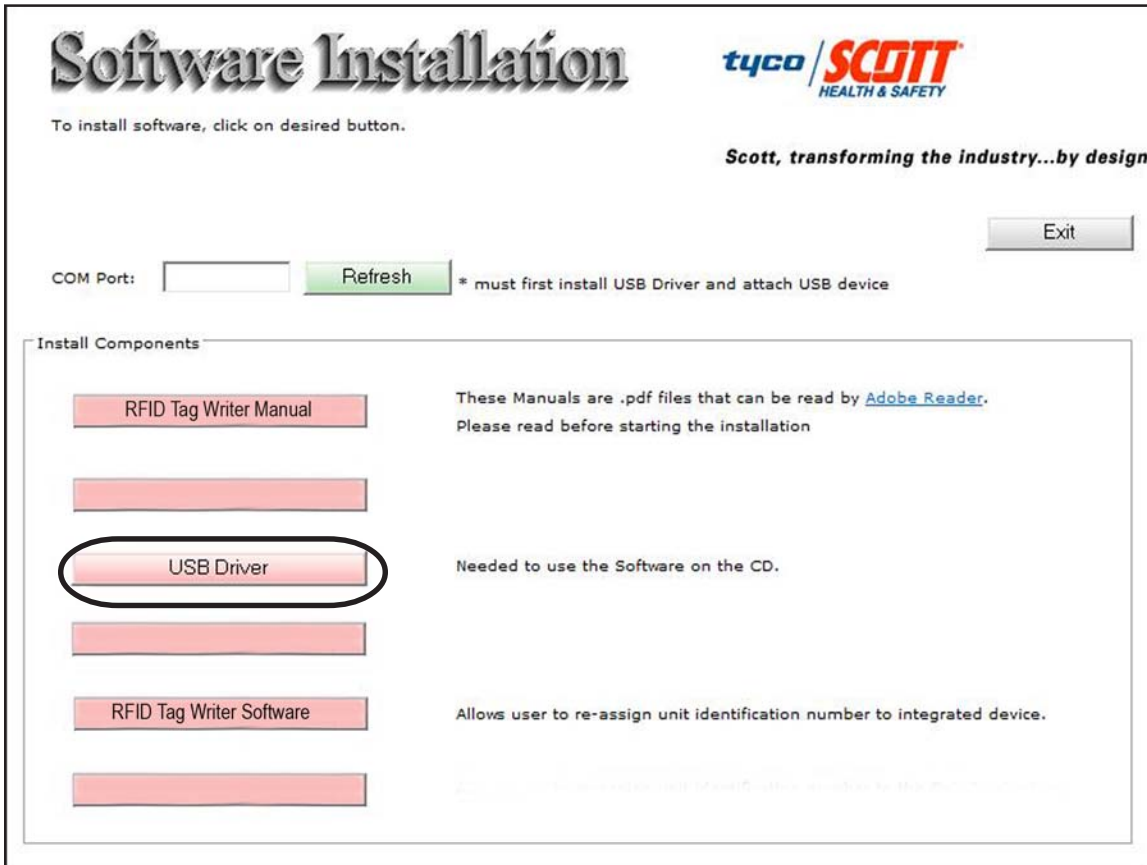

FIGURE 1
1. Insert the CD disk, SCOTT P/N 31001686, in you computer. Installer screen will appear. See FIGURE 1.